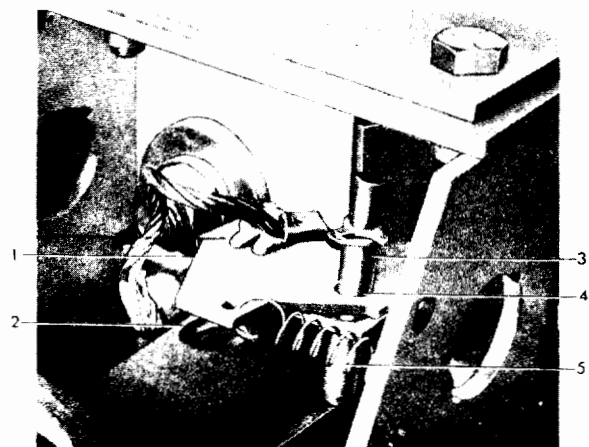

Fig. 10 Closing Spring Gag Interlock
The closing spring gag interlock is provided on the breaker to prevent a breaker that has a gagged closing spring from entering the metalclad unit. This is accomplished by projecting a lever, (1) Fig. 10, out of the left side of the mechanism when the closing spring is gagged.
- (2) Insert the close spring blocking pin, (3) Fig. 10, by carefully removing it from its storage hole, rotating the interlock lever and inserting it in the blocking hole.
- (3) **CAUTION:** If the manual close button is not pressed prior to performing step 4, the breaker will be damaged. **PRESS THE MANUAL CLOSE BUTTON TO PARTIALLY DISCHARGE THE CLOSING SPRING AGAINST THE BLOCKING PIN.**